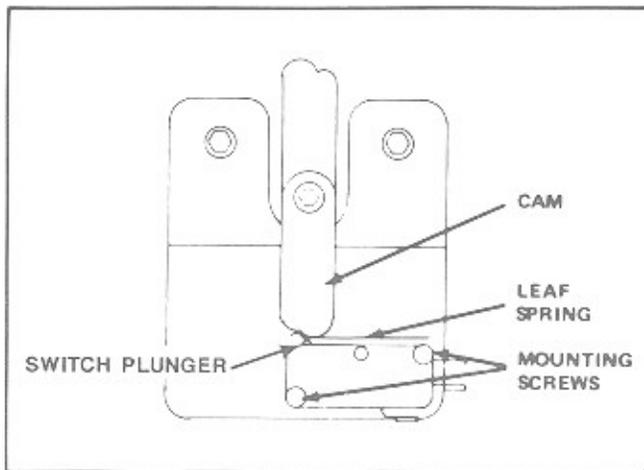

Figure 3-12. Cam Switch Adjustment
2. To adjust switches, loosen mounting screw under plunger end and move the switch housing as required (see figure 3-12).